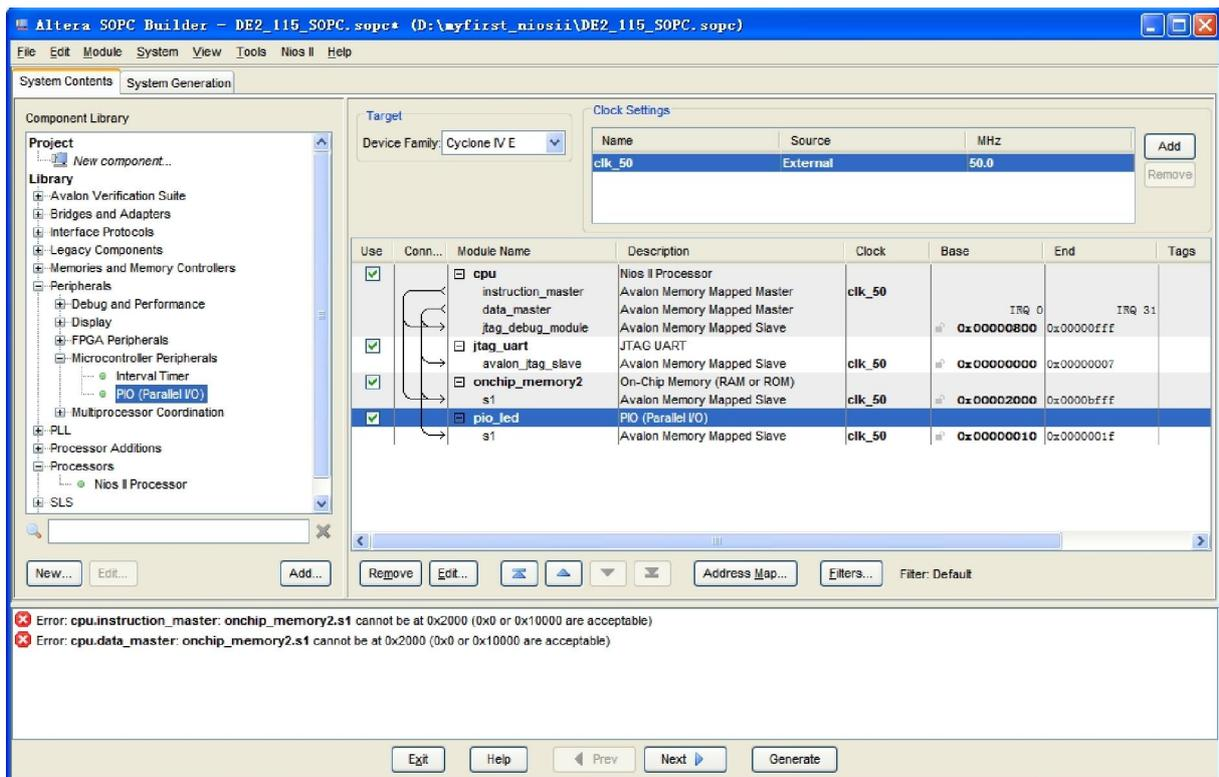

Figure 1-33 Rename PIO
21. Rename **pio_0** to **pio_led** as shown in Figure 1-33.